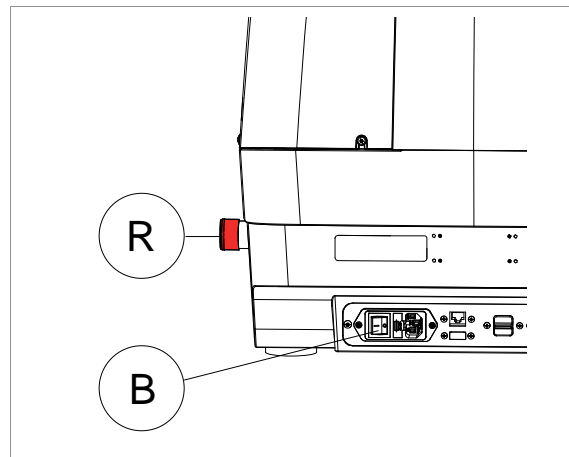

Fig. 8
**ATTENTION:** turn off the master switch (B) on the back of the machine (Fig. 8) and unplug before carrying out maintenance operations..